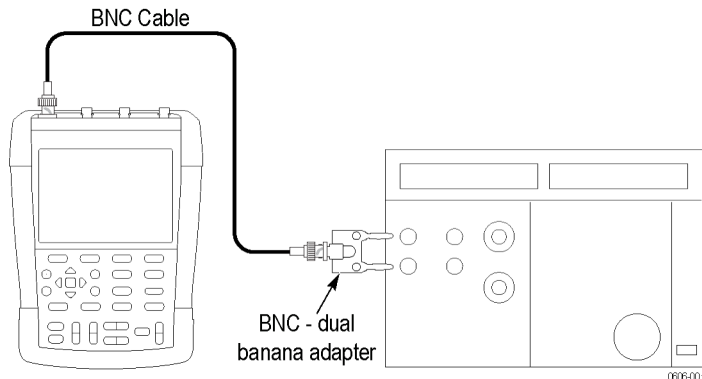

Figure 2: Setup for vertical accuracy test
1. Connect the test setup as shown. (See Figure 2.)